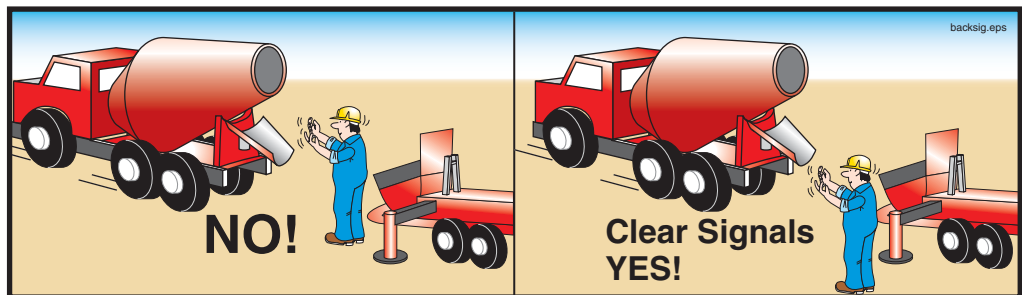

Figure 15
- 6.6 **⚠ WARNING** **Crushing hazard! Never, ever** position yourself between a ready mix truck and the pump! Stand off to the side, so the ready mix driver can see you at all times (Figure 15).
- 6.7 **⚠ WARNING** When backing in ready mix trucks, use clear and concise hand signals (Figure 15).